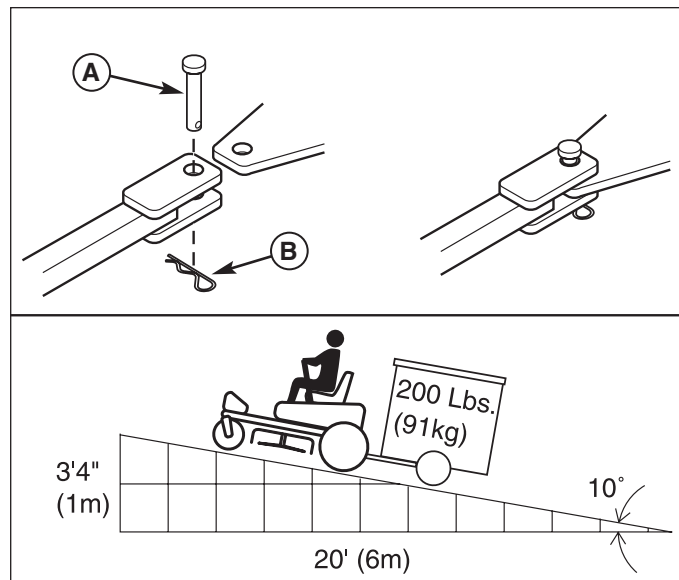

Figure 9. Trailer Weight Recommendations
The maximum weight of a towed trailer should be less than 200 lbs (91kg). Secure the trailer with an appropriately sized clevis pin (A, Figure 9) and clip (B).